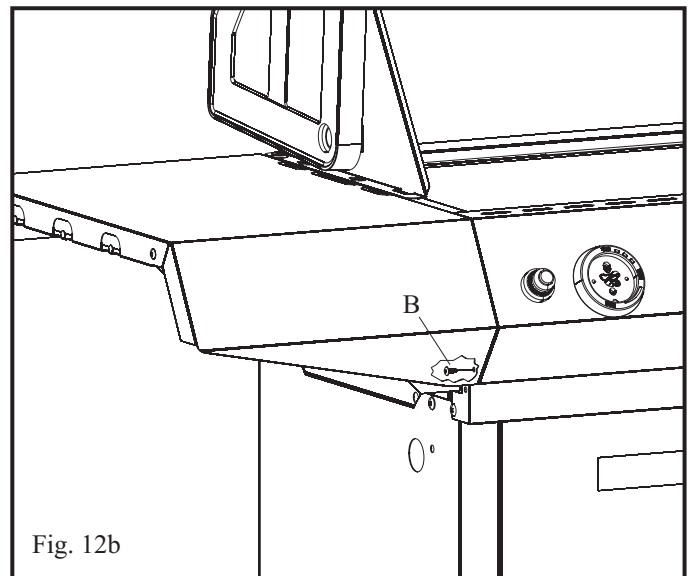

Fig. 12b
B. Attach the left shelf to the Console by inserting one (1) #8-18 x 1/2" Screw as shown in Fig. 12b.